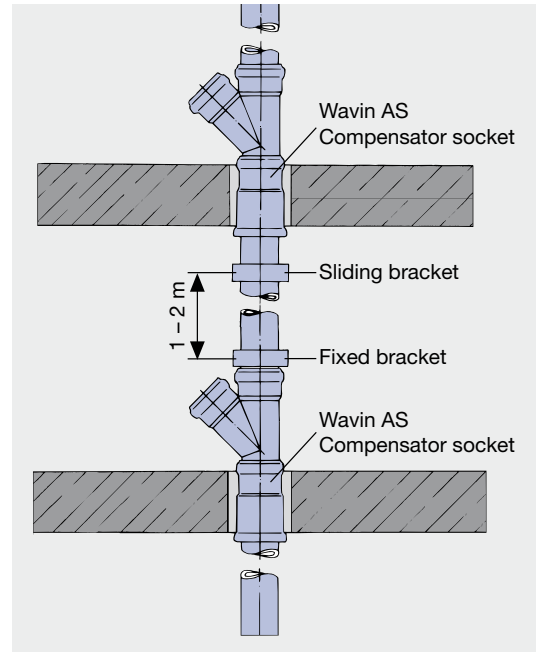
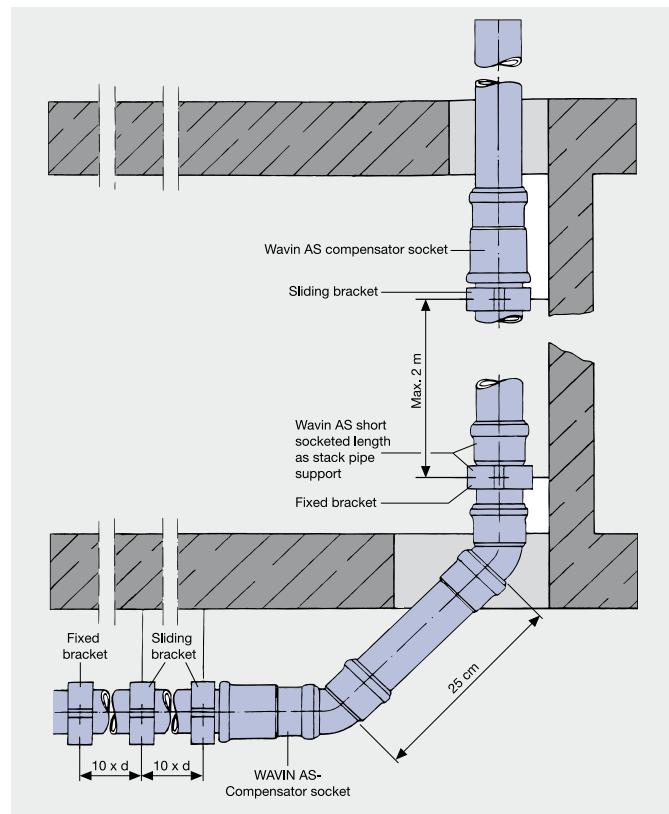

Figure 17 Fixing Wavin AS
Figure 18 Fixing Wavin AS with stack pipe support
- In case of horizontal installation, the pipe bracket distances are 10 x the outside of the pipe (see figure 18). This becomes, in case of vertical pipe installation, depending on outside diameter, 1-2 metres (see figure 17).
- The fixed bracket must be installed directly above the fitting at the bottom of the pipe end. The sliding bracket must be installed at a distance of maximum of 2 metres above the fixed bracket (see figure 18).
- In multiple storey buildings (from 3 storeys and more) the stack pipes of DN 100 or bigger must be secured by additional fixing (stack pipe support) against sliding (see figure 18). In this case we advise using the Wavin AS socketed short length with a fixed bracket. Stack segments with fittings or short pipes are to be secured in such short distances with pipe brackets, so that they cannot slide apart.
In exceptional cases, where connecting elements other than the compensator socket are used (eg double socketed sleeve), per maximum allowable pipe length (3 metres), one fixed bracket and one sliding bracket should be installed in line with the illustrations (see figure 17) and (see figure 18) shown on this page. The double socketed sleeves are to be fixed.